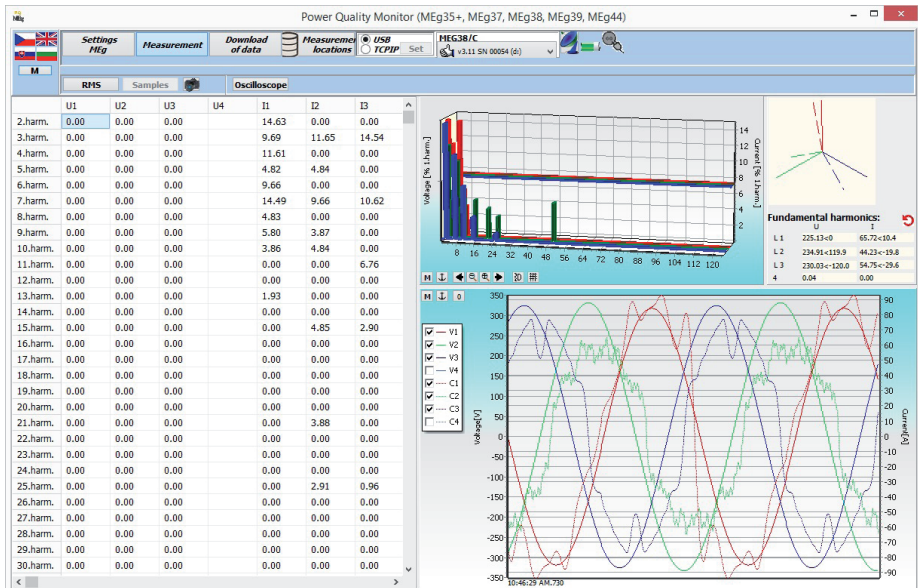

Fig. 37: Example of a main window with the information about GPS and GSM signal intensities
12. The GSM and GPS pictograms are displayed in the main window of the PQ_MEg program, refer to Fig. 37.